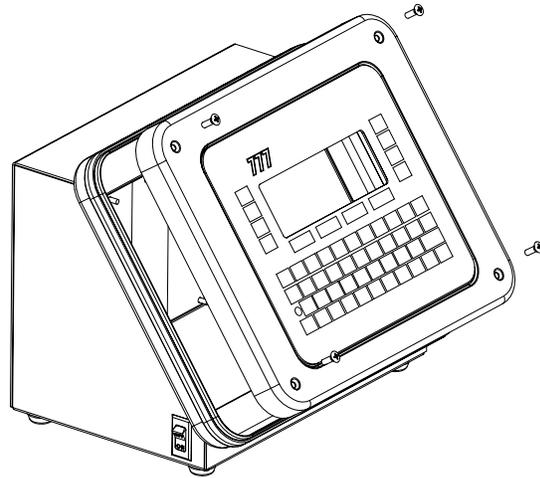

Figure No. 1
1. With the power cord unplugged, remove the four (4) screws securing the front cover assembly to the main housing. See Figure No. 1.